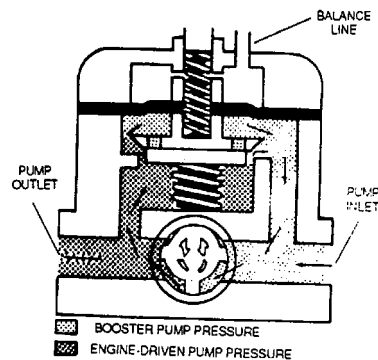

Figure 2-5. Engine-Driven Fuel Pump
(2) Hand. The hand, or wobble, pump is frequently used on light aircraft. It is generally located near other fuel system components and operated from the cockpit by suitable controls. No current Army aircraft have hand pumps.
(3) Engine-driven. The engine-driven pump is usually mounted on the accessory section of the engine. The purpose of the engine-driven fuel pump is to deliver a continuous supply of fuel at the proper pressure at all times during engine operation. The pump widely used at the present time is the positive-displacement, rotary-vane-type pump as shown in figure 2-5.